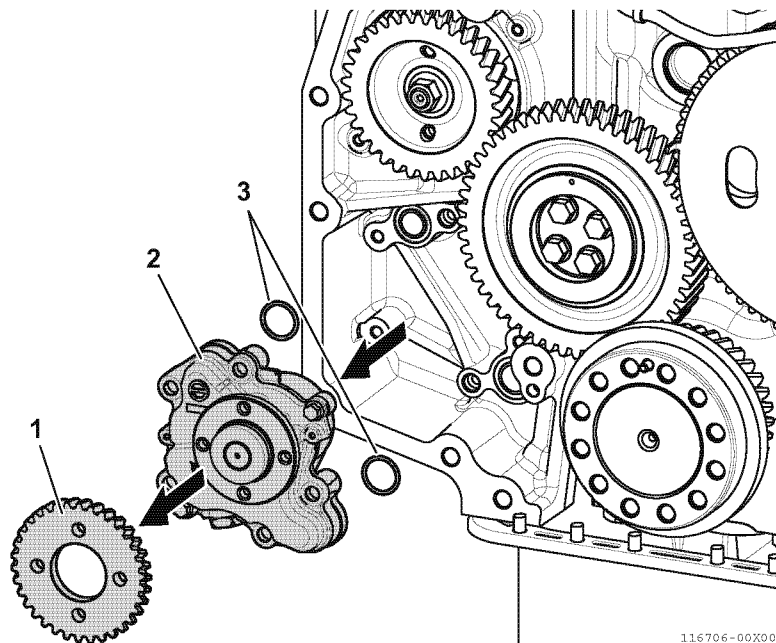

Fig.30-9
4. Remove the lubricating oil pump drive gear (1, Fig.30-9), then remove the lubricating oil pump assembly (2, Fig.30-9) from the cylinder block. Discard the O-rings (3, Fig.30-9) that are installed at two locations on the lubricating oil pump.